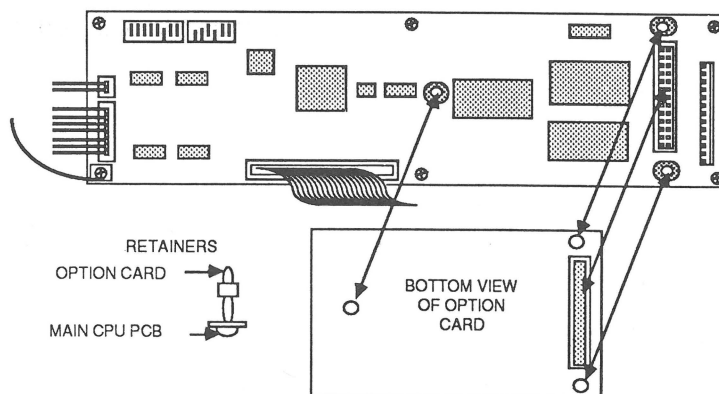

FIGURE 3
3. Squeeze the plastic retainers (see Figure 3) together one at a time with the pliers, and gently lift the corners of the option card.
1. Position the option card above the plastic retainers, and line up the connector from the option board with the one on the main CPU PCB (see Figure 3).